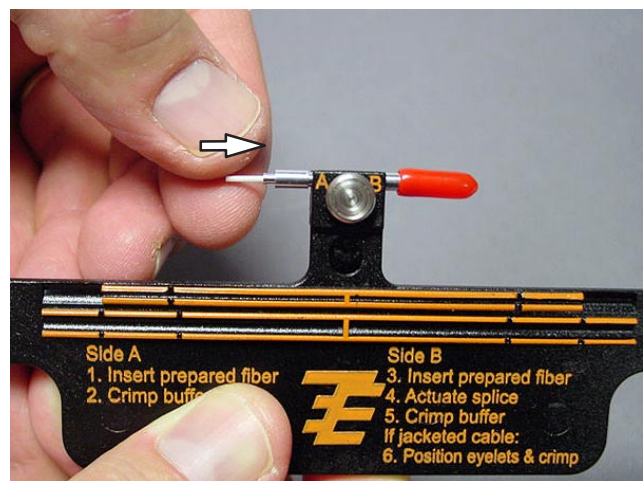

Figure 33
5. Insert one of the white 250- μ m build-up tubes into the splice until it bottoms on side A. See Figure 33.